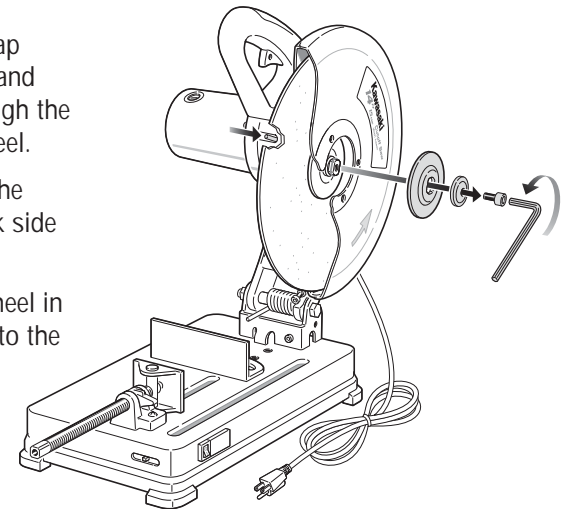

FIGURE 4. REMOVING/INSTALLING THE CUTTING WHEEL
6. Hold the arbor shaft lock in place and use a 5/16" (8mm) hex wrench or hex bit, remove the hex socket-head cap screw by turning it counterclockwise. Also, remove the washer, outer flange, arbor adapter (if used), abrasive wheel, and inner flange. See Figure 4.
6. Tighten the hex socket-head cap screw securely into the motor arbor. See Figure 4.